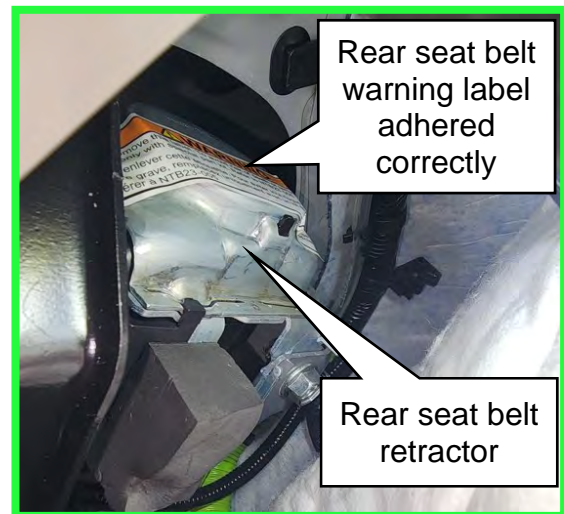

Figure 3
- The rear seat belt warning label should be installed and adhered correctly, as shown in Figure 3.